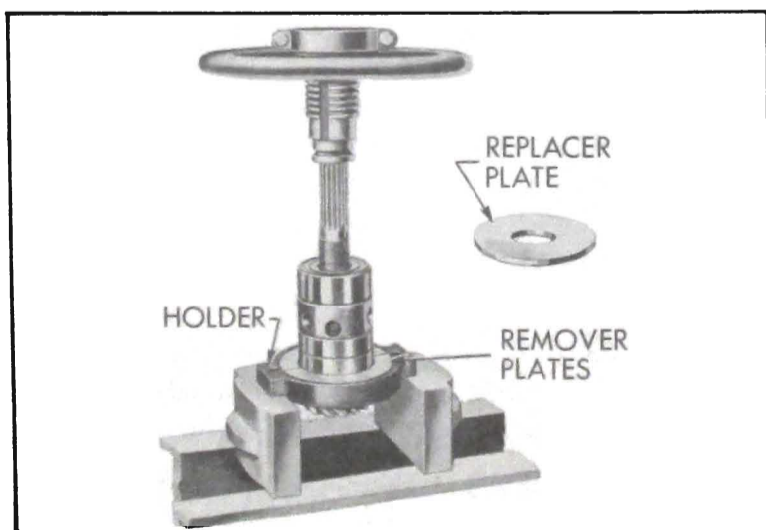

Figure 6-9—Removing Pinion Front Bearing
8. Press off pinion front bearing using Bearing Remover Plates J 5737-6 installed in Press Plate Holder J 358-1 with recessed side upward. See figure 6-9.
2. Press front bearing solidly against shoulder on pinion, using Bearing Replacer Plate J 5737-7 in Plate Holder J 358-1. See figure 6-9.